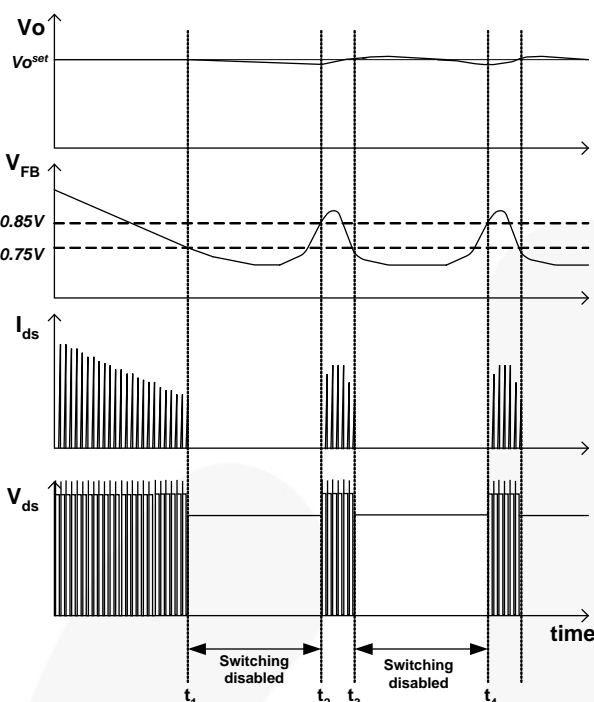

Figure 18. Burst-Mode Operation
6. Burst-Mode Operation: To minimize power dissipation in standby mode, the FPS enters burst-mode operation. As the load decreases, the feedback voltage decreases. As shown in Figure 18, the device automatically enters burst mode when the feedback voltage drops below V_{BURL} (750 mV). At this point, switching stops and the output voltages start to drop at a rate dependent on standby current load. This causes the feedback voltage to rise. Once it passes V_{BURH} (850 mV), switching resumes. The feedback voltage then falls and the process repeats. Burst mode alternately enables and disables switching of the SenseFET, reducing switching loss in standby mode.